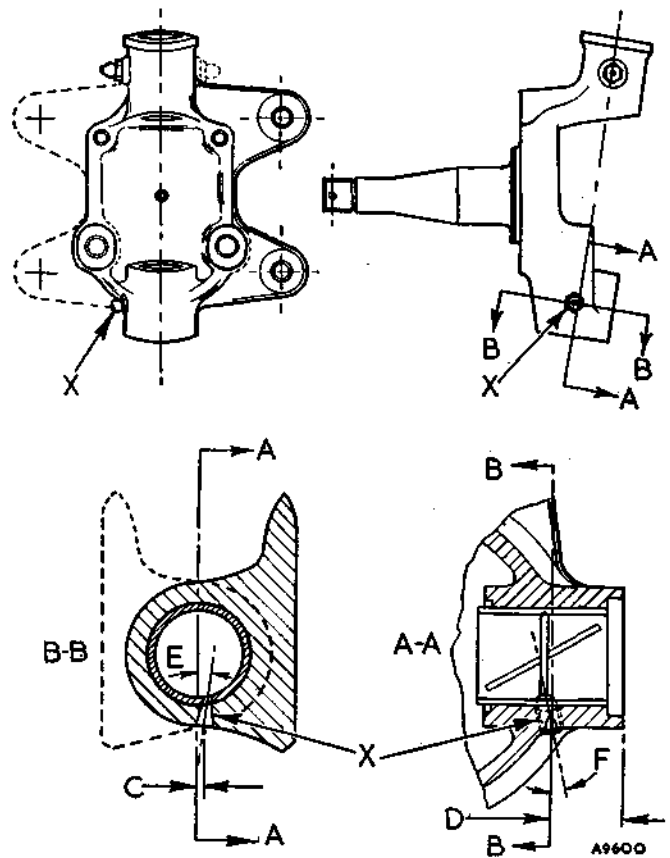

Fig. K.4
2. Using a No. 3 (.213 in. (.541 mm.)) drill, carefully drill each swivel axle in the position shown at 'X' in Fig. K.4.